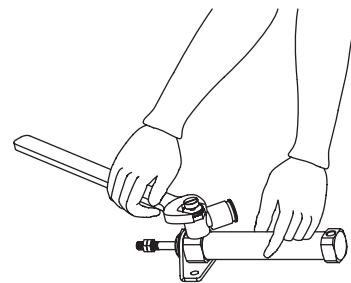

Figure 1
1. Use a suitable torque wrench to tighten the pipe as shown in Figure 1, applying force by hand as closely to the wrench head as possible.